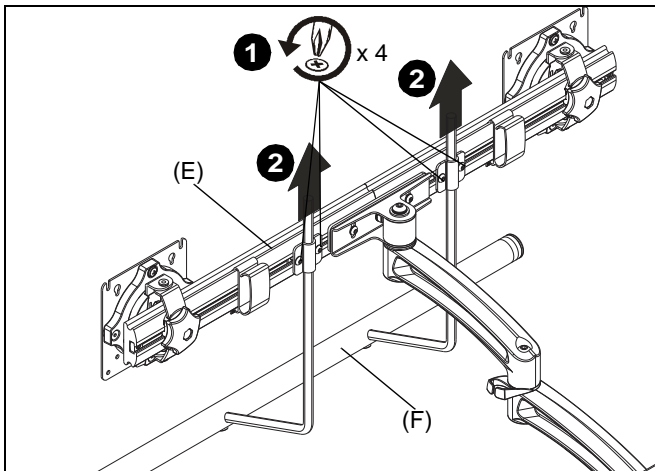

Figure 9
1. Loosen four screws securing handle brackets to K2W21H/ K2W22H array. (See Figure 9)
2. Install uprights of handle (J2) into handle brackets located on the back of array. (See Figure 9)